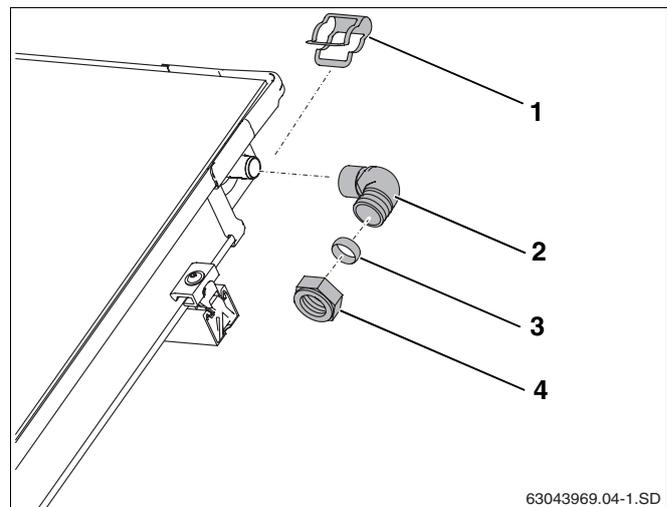

Fig. 57 Fitting flow line (with no vent on roof)
- ▶ Push elbow (Fig. 57, **Item 2**) with olive and union nut onto collector connection.
- ▶ Secure elbow with bracket (Fig. 57, **Item 1**).